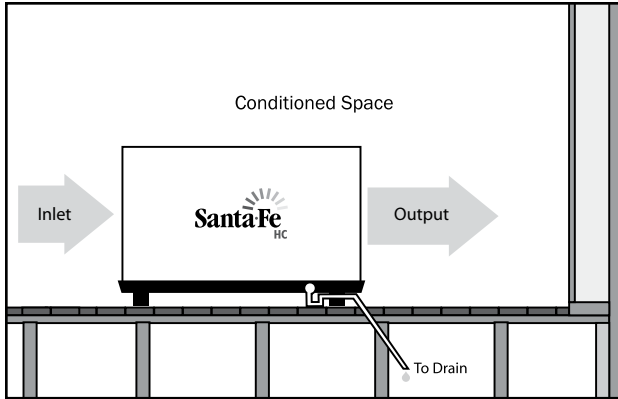

Figure 1: Installation in humid area with no ducting.
3.1A In Humid Area, No Ducting (fig. 1)